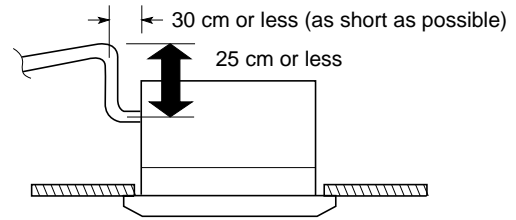

Fig. 3-29
- If it is necessary to increase the height of the drain pipe, the section directly after the connection port can be raised a maximum of 25 cm. Do not raise it any higher than 25 cm, as this could result in water leaks. (Fig. 3-29)